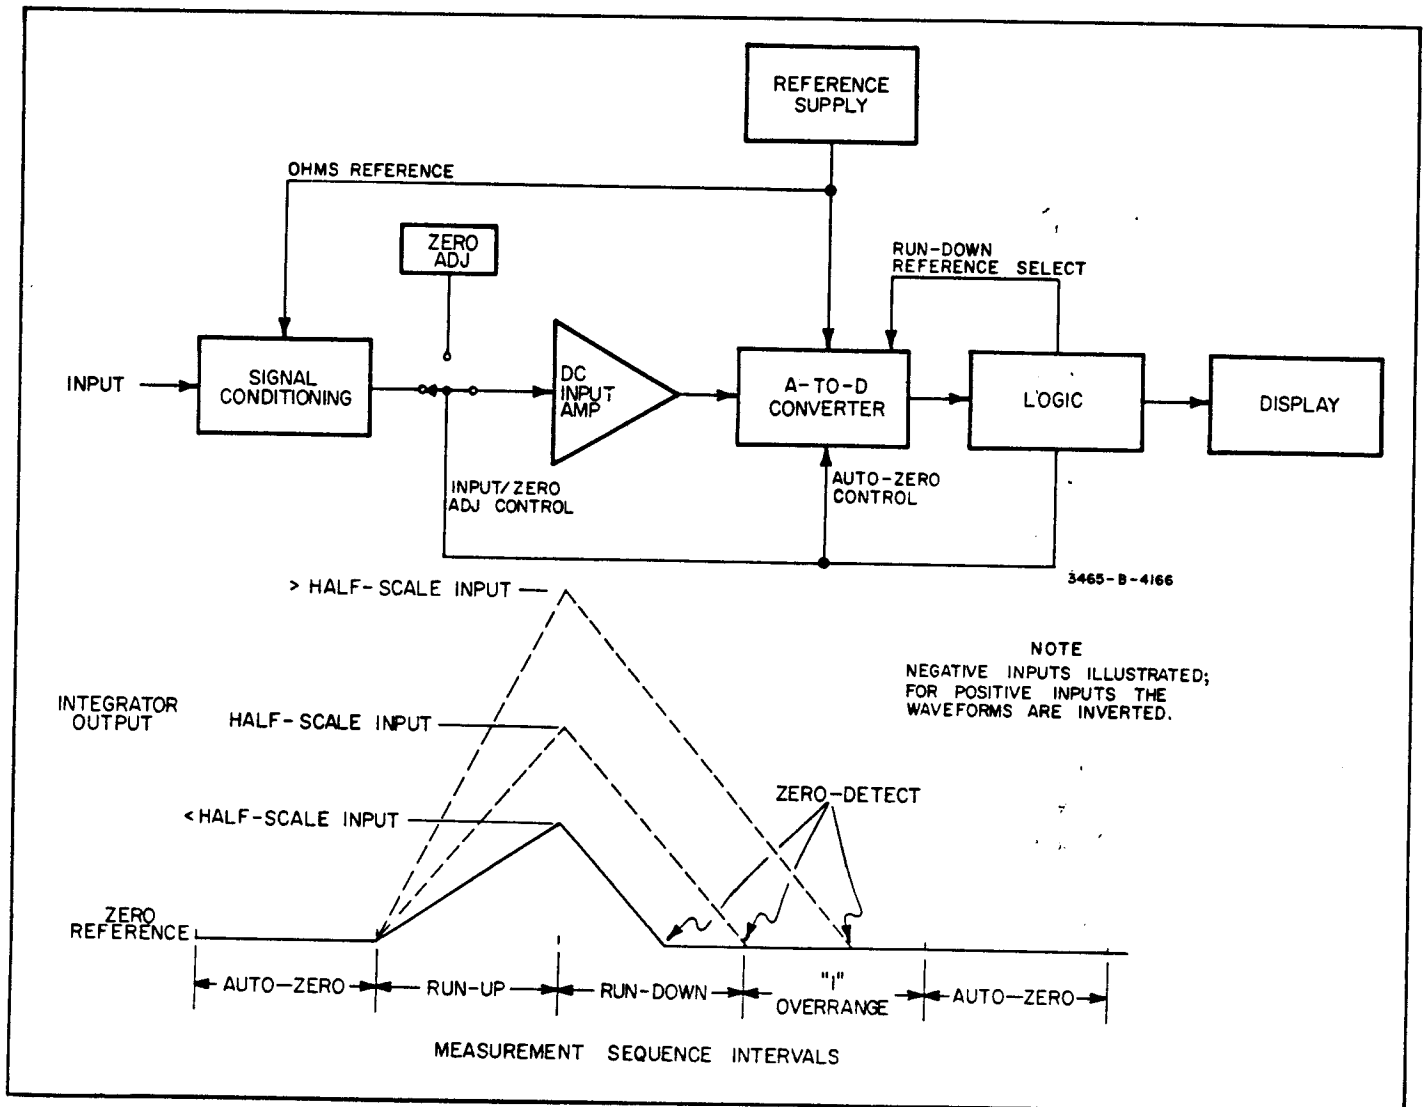

Figure 4-1. Basic Block Diagram and Measurement Sequence.
4.5. Figure 4-1, Basic Block Diagram and Measurement Sequence, illustrates the major functional blocks of the Multimeter. The illustration of the measurement sequence shows the integrator output for each interval of a measurement cycle. This diagram is to supplement the functional block diagram for the simplified theory discussion.
4-7. A simplified theory of operation of the Multimeter is presented in the following paragraphs. The simplified theory describes each section of the functional block diagram, Figure 7-1. These sections are the signal conditioning section, analog-to-digital section, logic section and the display section. Also presented is a simplified description of the power supply. Refer to Figure 7-1, Functional Block Diagram, and Figure 4-1, Basic Block Diagram and Measurement Sequence, for this discussion.